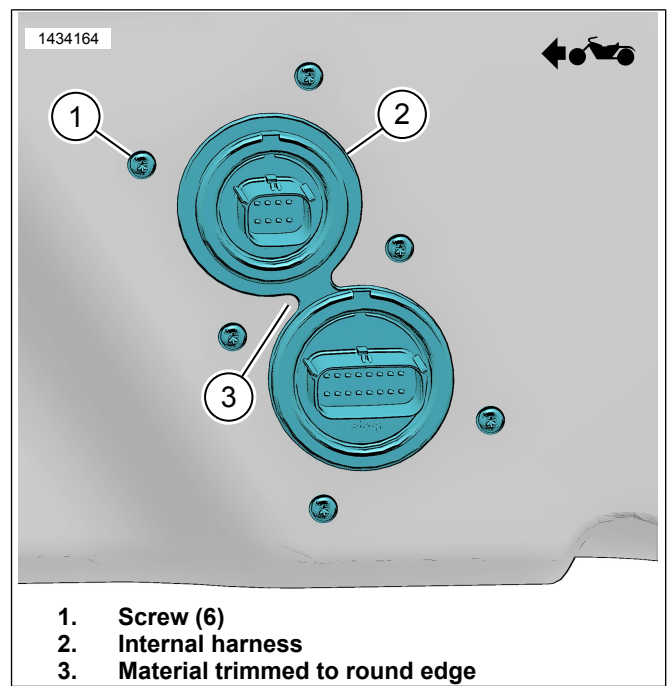

Figure 10. Inner Harness
- d. See Figure 10. Trim material to round edge (3).
11. See Figure 10. Install internal harness (2).